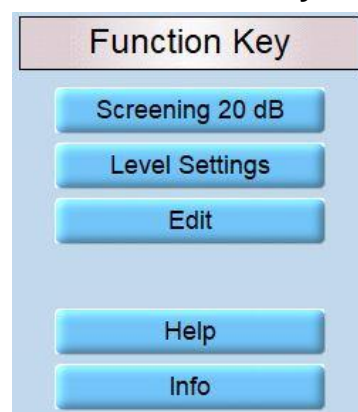

Figure 60
**Info:** Shows information such as serial number and software version (Figure 60).